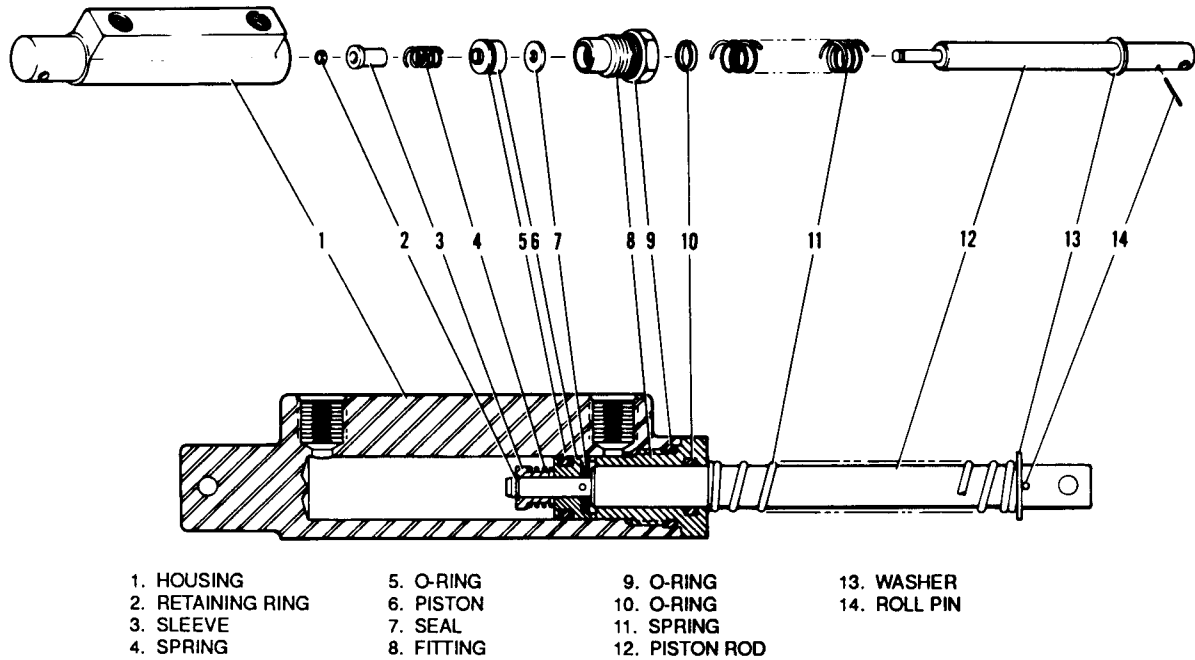
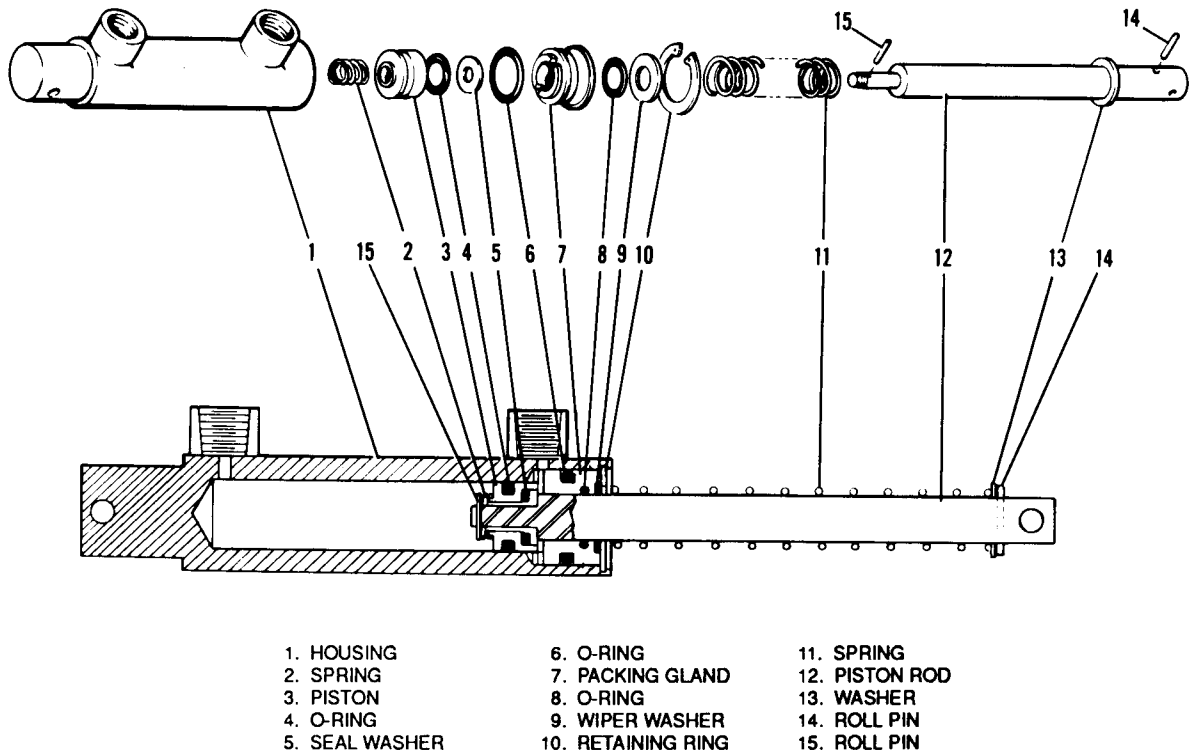

Figure 7-24. Brake Cylinder
Figure 7-25. Brake Cylinder
- Gar-Kenyon cylinder number 17000. (Refer to Figure 7-24.)
- To disassemble the cylinder, first remove the piston rod assembly by unscrewing the fitting (8) from the cylinder.
- The piston rod assembly may be disassembled by first removing the retaining ring (2) and securing the sleeve, and then the spring (4), piston (6), seal (7), fitting (8) and if desired, the large return spring (11).
- Cleveland cylinder number 10-27. (Refer to Figure 7-25.)
- To disassemble the cylinder, first remove the piston rod assembly by removing the retaining ring (10) from the annular slot in the cylinder housing (1). Draw the piston rod assembly from the cylinder.
- The piston rod assembly may be disassembled by first removing the roll pin (15), spring (2), and then the piston assembly (3), seal (5) and packing gland (7), and if desired, the large return spring (11).
7-67. ASSEMBLY OF BRAKE CYLINDER. (Refer to Figures 7-24 and 7-25.)
- a. Gar-Kenyon cylinder number 17000. (Refer to Figure 7-24.)
1. Install new O-rings on the inside and outside of the fitting (8) and on the outside of the piston (6).
2. To assemble the piston rod assembly, install on the rod (12), in order, the roll pin (14), return spring retainer washer (13), return spring (11), fitting (8) with O-rings, seal (7), piston (6) with O-ring, spring (4) and sleeve (3). Secure these pieces with the retaining ring (2) on the end of the rod.
3. Insert the piston rod assembly in the cylinder (1) and secure fitting (8).
- b. Cleveland cylinder number 10-27. (Refer to Figure 7-25.)
1. Install new O-rings on the inside and outside of the packing gland (7) and on the outside of the piston (3).
2. To assemble the piston rod assembly, install on the rod (12), in order, the roll pin (14), washer (13), spring (11), washer (9), packing gland (7) with O-rings, seal (5), piston assembly (3) with O-ring, spring (2), and roll pin (15).
3. Insert the piston rod assembly in the cylinder (1) and secure with the retaining ring (10).
7-68. INSTALLATION OF BRAKE CYLINDER. (Refer to Figure 7-24.)